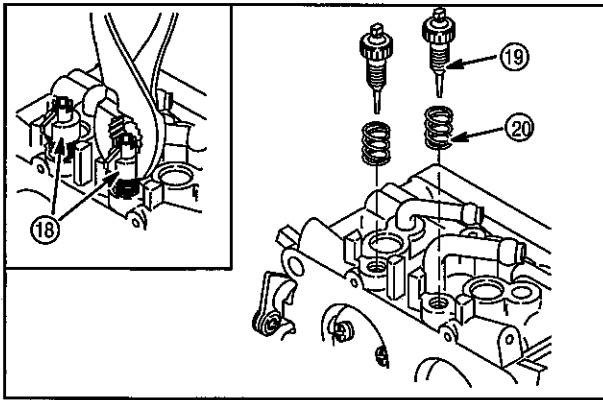

Fig. 65
9. Remove idle mixture screws (19) and springs (20), Fig. 65.
NOTE: If idle mixture screws are equipped with adjustment limiter caps, remove the caps (18) BEFORE removing idle mixture screws, inset, Fig. 65.